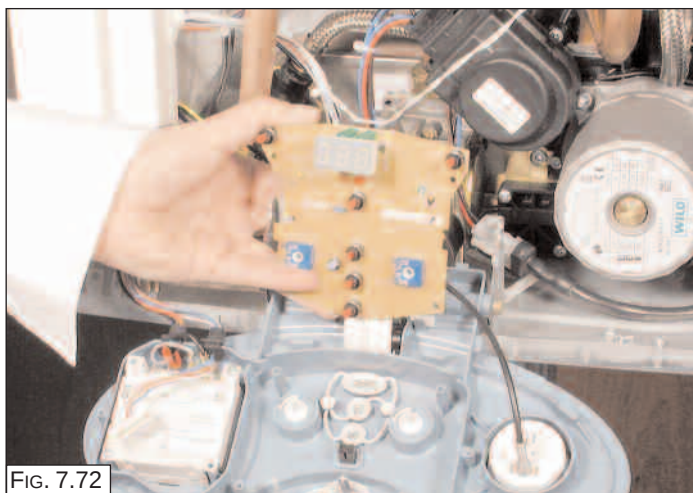

FIG. 7.72
8. Remove the display P.C.B. (FIG. 7.72);